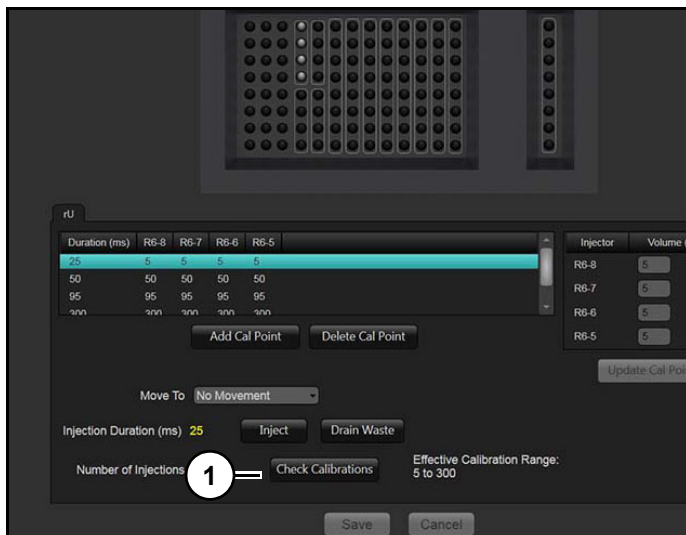

Figure 19
1. Click "Check Calibration" (1) (Figure 19).